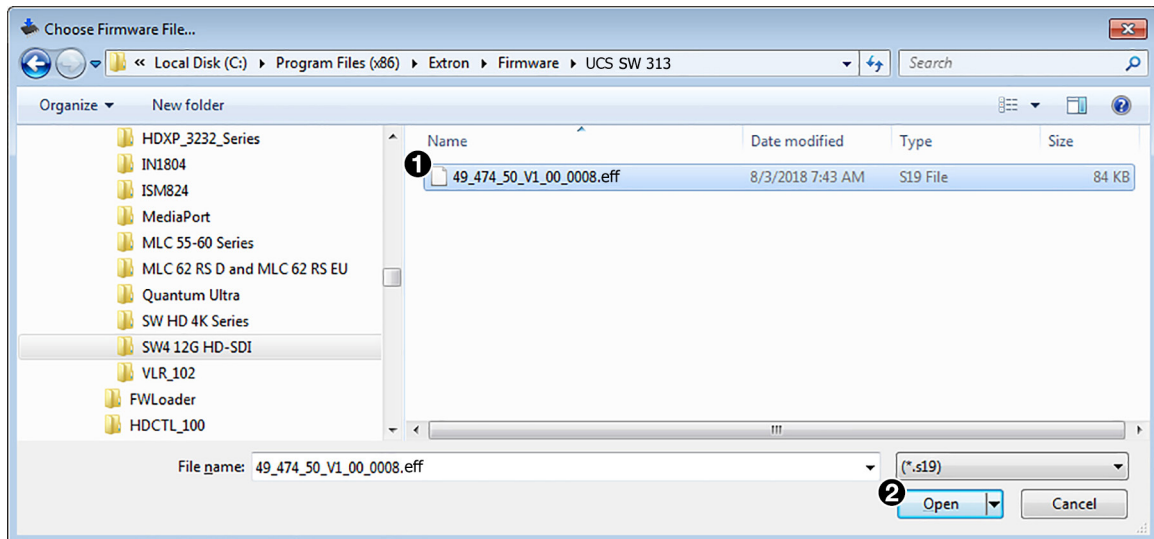

Figure 26. Choose Firmware File Window
4. Click **Add** (④) at the bottom of the dialog box. The Add Device window closes, and the UCS SW 313 information is added to the Device panel of the Firmware Loader dialog box.
6. In the Choose Firmware File window, browse to locate the new firmware file, select it (see figure 26, ① on page 47) and click **Open** (②).